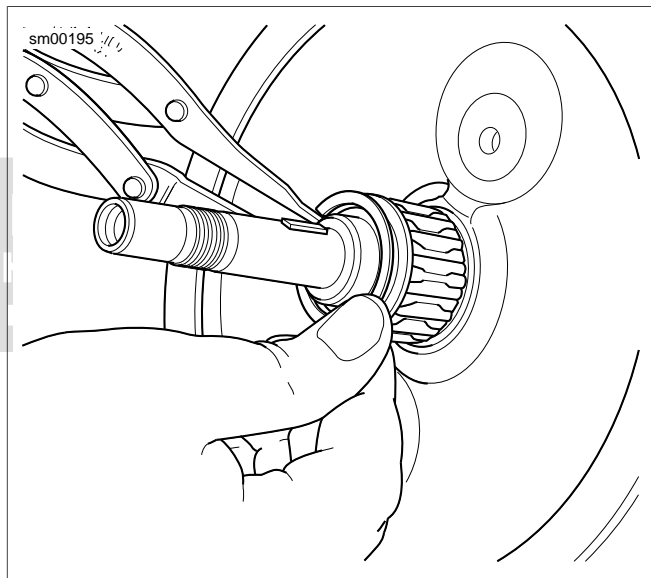

Figure 3-138. Pinion Shaft Bearing
6. See Figure 3-138. Install pinion shaft bearing.